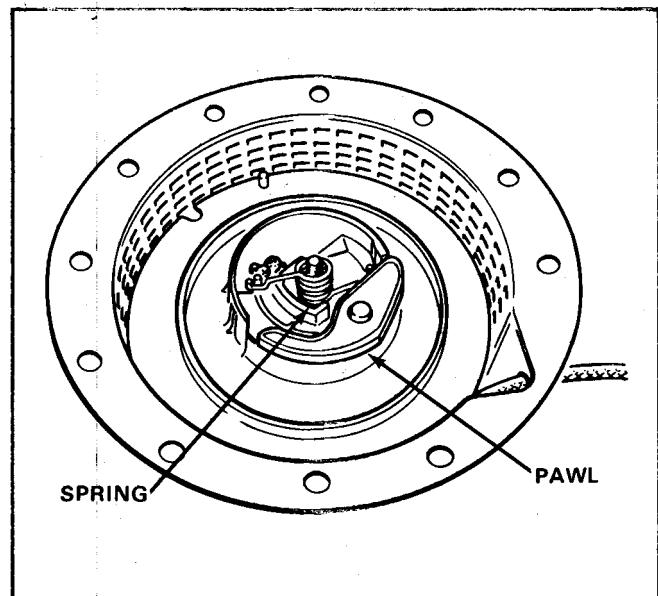

Figure 43
4. Carefully lift off the friction plate. Note how the spring is mounted on the center post and engages the starter pawl. See Figure 43.
8. Install the spring and friction disc. Make sure the spring engages the starter pawl. Refer to Figure 43.